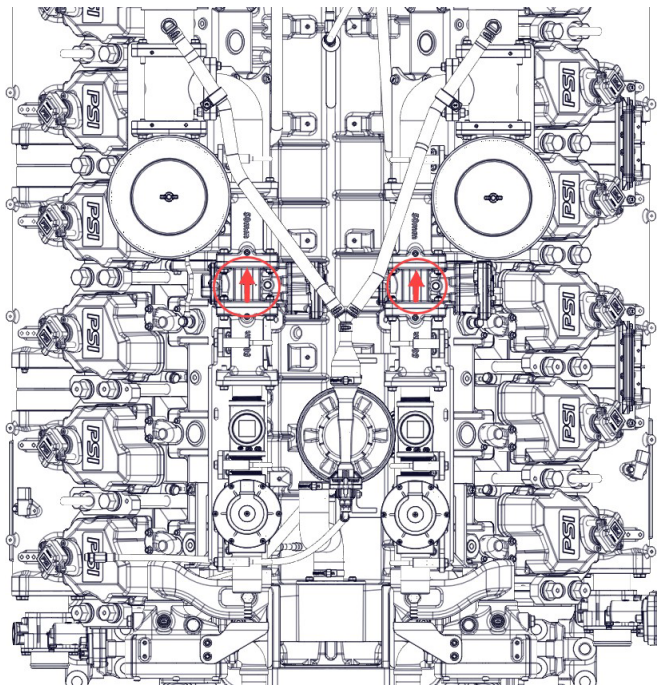

Figure 30.
- Ensure the arrow on the MFG Valve is pointing toward the rear of the engine (Figure 30).